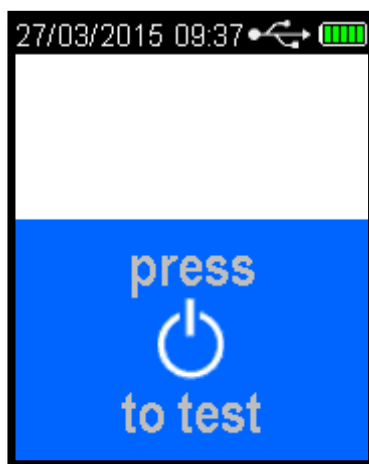

Figure 5 Press to test message
- The display will show press to test (Refer Figure 5).